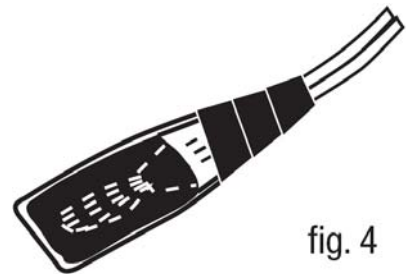

fig. 4
8. Wrap open end of bag with Scotch® Super 33+™ Vinyl Electrical Tape and position the taped end up until resin gels (8-12 min. @ 73°F (23° C)). (fig. 4)